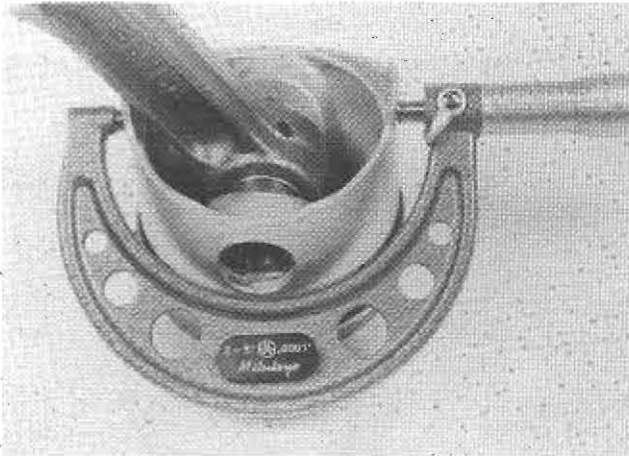

Fig. 3-4 Piston Measurement
2. Measure the piston diameter (Fig. 3-4). The measurement should be taken .3543 in. (9.0 mm) up from the bottom of the skirt and at a right angle to the piston pin. Piston diameter should not be less than 2.8287 in. (71.85 mm).